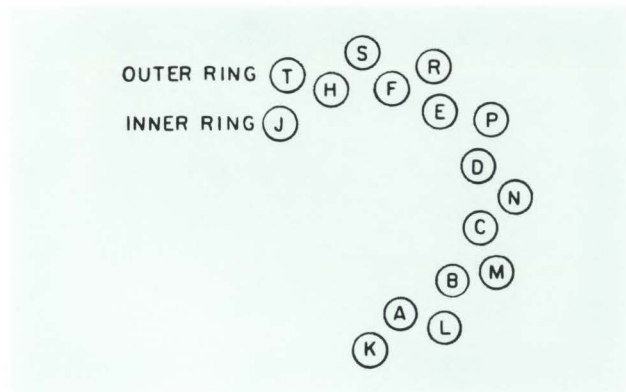

Figure 5-5. Type 76-08 Channel 1 or Channel 2 Trimmer Locations
8. Set Square Wave Generator to obtain 4 divisions of deflection and adjust the trimmer indicated in Table 5-1 for flat response. See Figure 5-5. At low sensitivity, switch internal impedance of Type 791 Square Wave Generator to 600 ohms.